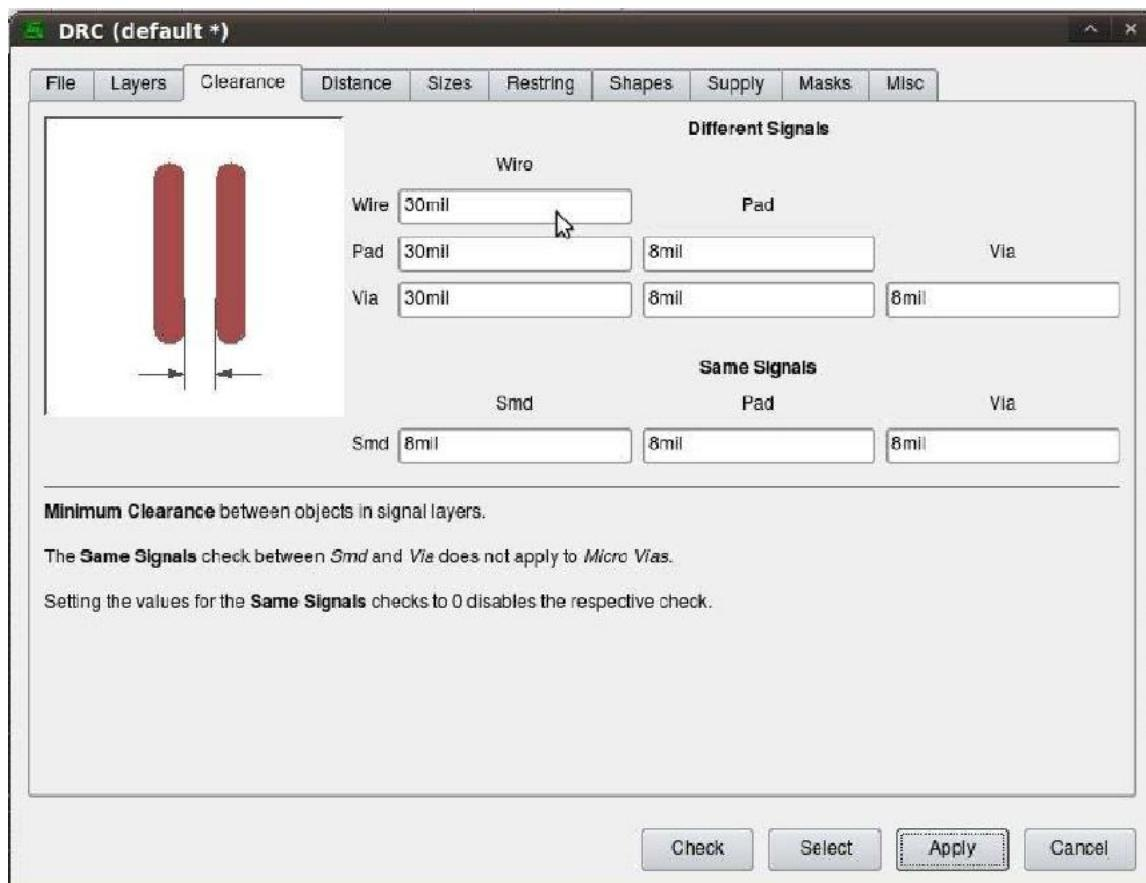

Figure 6-13. Changing the clearances enables more room between traces and the Ground plane.
7. **Set clearances:** Now you need to set the clearances of the Ground plane so the traces are not too close together. Changing the wire clearance makes transferring the design to the copper PCB much easier. Select Tools DRC from the menu and then go to the Clearance tab. From there, change the first three boxes (under the Wire column) from 8mm to 30mm as shown in Figure 6-13.